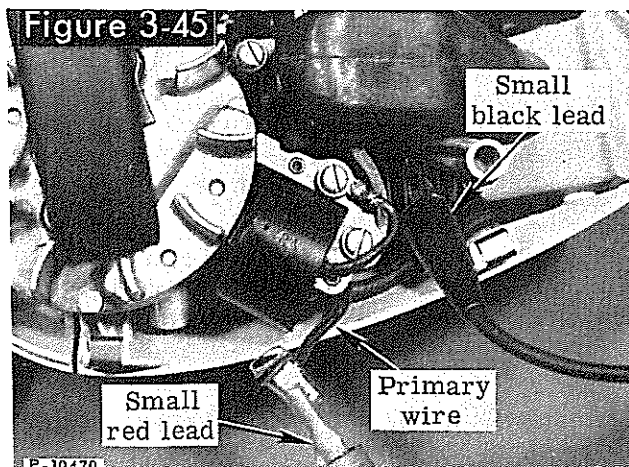

Figure 3-45
3. Connect the small red lead to the disconnected primary lead and the small black lead to ground on the engine (Figure 3-45). Remove the switch lead from the switch and turn the flywheel until the points are open. (The pointer on the Merc-O-Tronic will move to the left.) Reconnect the switch lead to the switch. When the ignition switch is OFF, the needle will move to the right to the SET line. When the ignition switch is ON, the needle will move to the left, indicating that there is no continuity through the switch. Should these movements be different, then the switch is not working properly. Check for broken insulation on the switch lead.